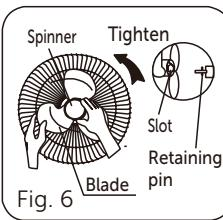

Fig. 6
5. Attach the spinner to the motor shaft by turning it counter-clockwise to secure the fan blade (see Fig. 6).